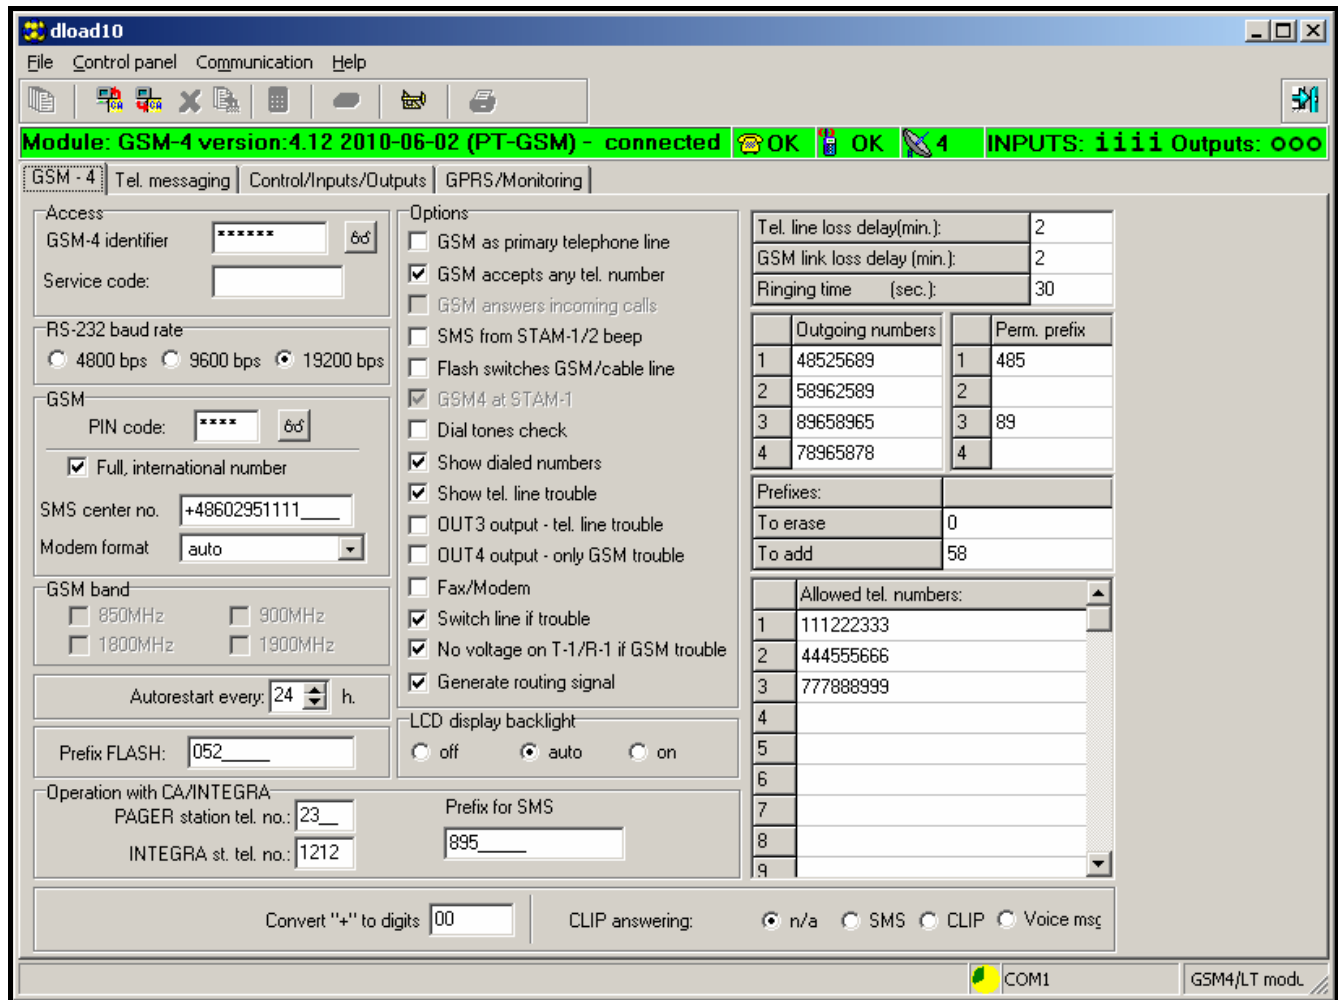

Figure 11.
4. Enter the DOWNLOADING password (preprogrammed in the module with **GSM-4 ident.** service function – see figure 11). By default, the password (AAAAAA) is not preprogrammed in the GSM-4 module.